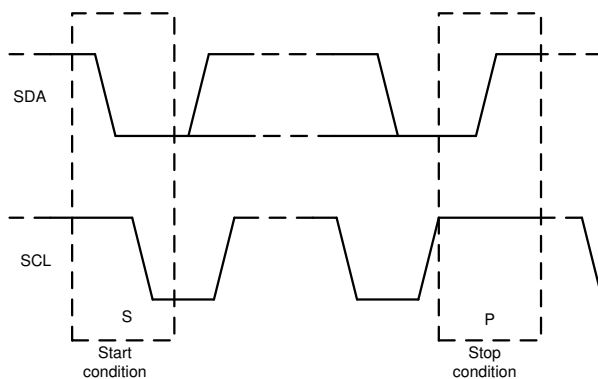

图 7-21. Start and Stop Conditions
1. The controller initiates data transfer by generating a start condition. 图 7-21 shows that the start condition is when a high-to-low transition occurs on the SDA line while SCL is high. All I2C-compatible devices recognize a start condition.
4. 图 7-21 shows that to signal the end of the data transfer, the controller generates a stop condition by pulling the SDA line from low-to-high while the SCL line is high. This action releases the bus and stops the communication link with the addressed target. All I2C-compatible devices recognize the stop condition. Upon receipt of a stop condition, the bus is released, and all target devices then wait for a start condition followed by a matching address.